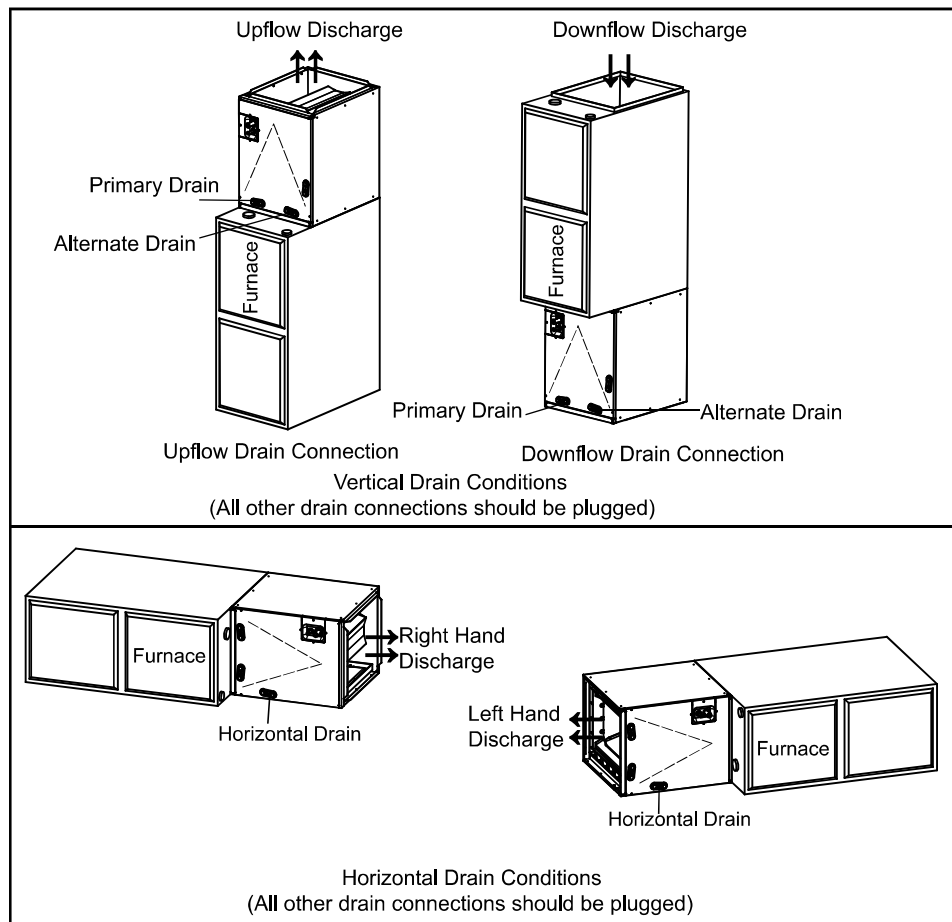

Fig.4 INSTALLATION OF CASIED COIL
The coil can be positioned for bottom return air in the upflow and horizontal right applications. It must be positioned for top return when in downflow and horizontal left applications. See figure 4. For furnace applications, the coil must be installed downstream (in the air outlet) of the furnace.
1. See Fig.4 for coil installation and drain connection.
- C. Ensure that the coil is leveled well and seal the gap between coil and furnace. See Figure 4. In case that coil and furnace sizes are not matched, use proper size of sheet metal or other material to fill the gap and seal the gap to prevent air leak ;